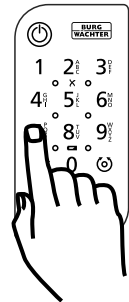

Fig. 2
- 2 Enter your administrator or user code and check that the cylinder is activated (Fig. 2).